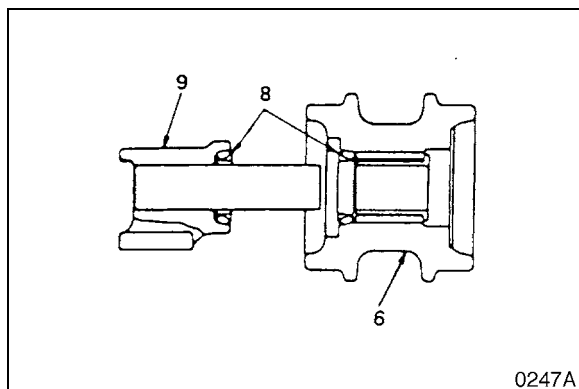

Figure 45
2. Insert group seal (8, Figure 45) into the roller (6) and bushing.